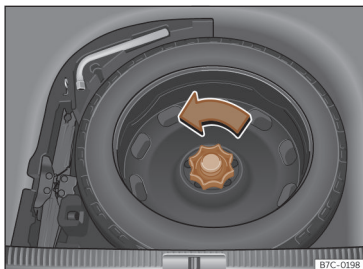

Fig. 231 In the luggage compartment: raised load floor.
- Turn the thumb wheel anticlockwise >>> Fig. 231.